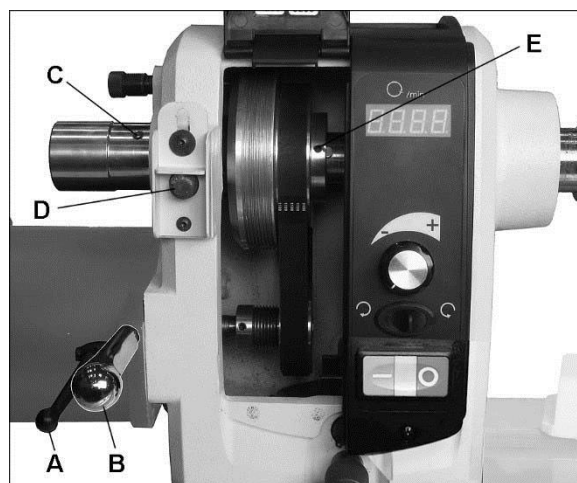

Fig 35
The motor and spindle pulleys are aligned with each other by the manufacturer, but if any service is performed that affects their alignment it is very important that they be realigned. Engage spindle lock, loosen two set screws on spindle pulley (E, Figure 35) with 3mm hex key, and slide spindle pulley into proper position. Retighten set screws, and disengage spindle lock.
2. Loosen pivot lock handle (A, Figure 35) and lift up tension handle (B) to raise motor.
3. Tighten pivot lock handle (A) to secure motor in raised position.
5. Loosen two set screws on handwheel (C).
6. Engage spindle lock (D) and unscrew handwheel from spindle (left-hand threads, clockwise to loosen).